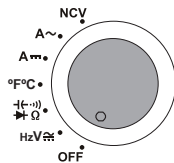

Fig. 2
- The product is off when the rotary switch (3) is at **OFF** position (Fig. 2). Turn off the product after use.
- Use the rotary switch to select the individual measuring functions. Automatic range selection is active for some measuring functions. This feature automatically sets the appropriate measuring range for each application. The LCD shows **Auto** (E).